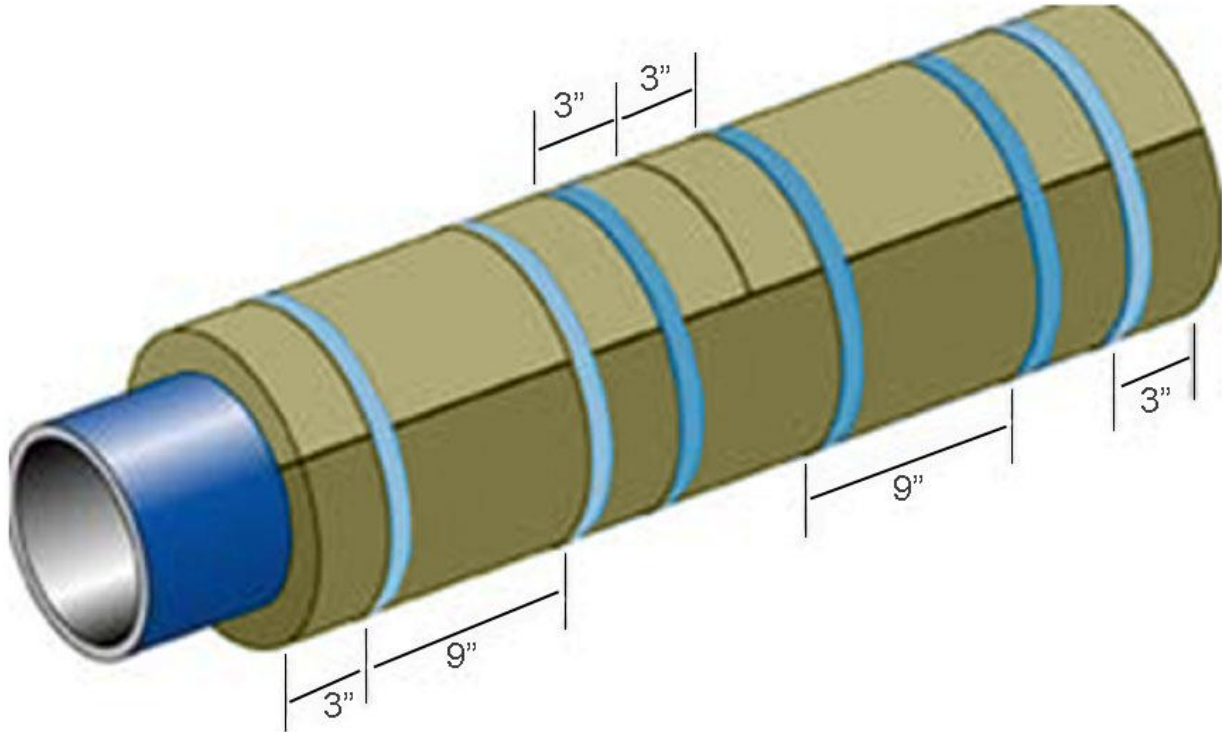

Figure 2
- 4.1.6 Insulation shall be secured to the pipe with 3/4" wide fiber reinforced tape. Tape shall be applied as per Figure 2 in Appendix B.